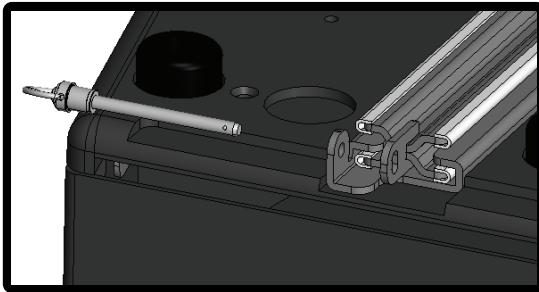

Figure 1
1. Remove PIN from Box 1 (Figure 1)
1. Retirez le GOUPILLE (PIN) de l'enceinte 1 (Figure 1)